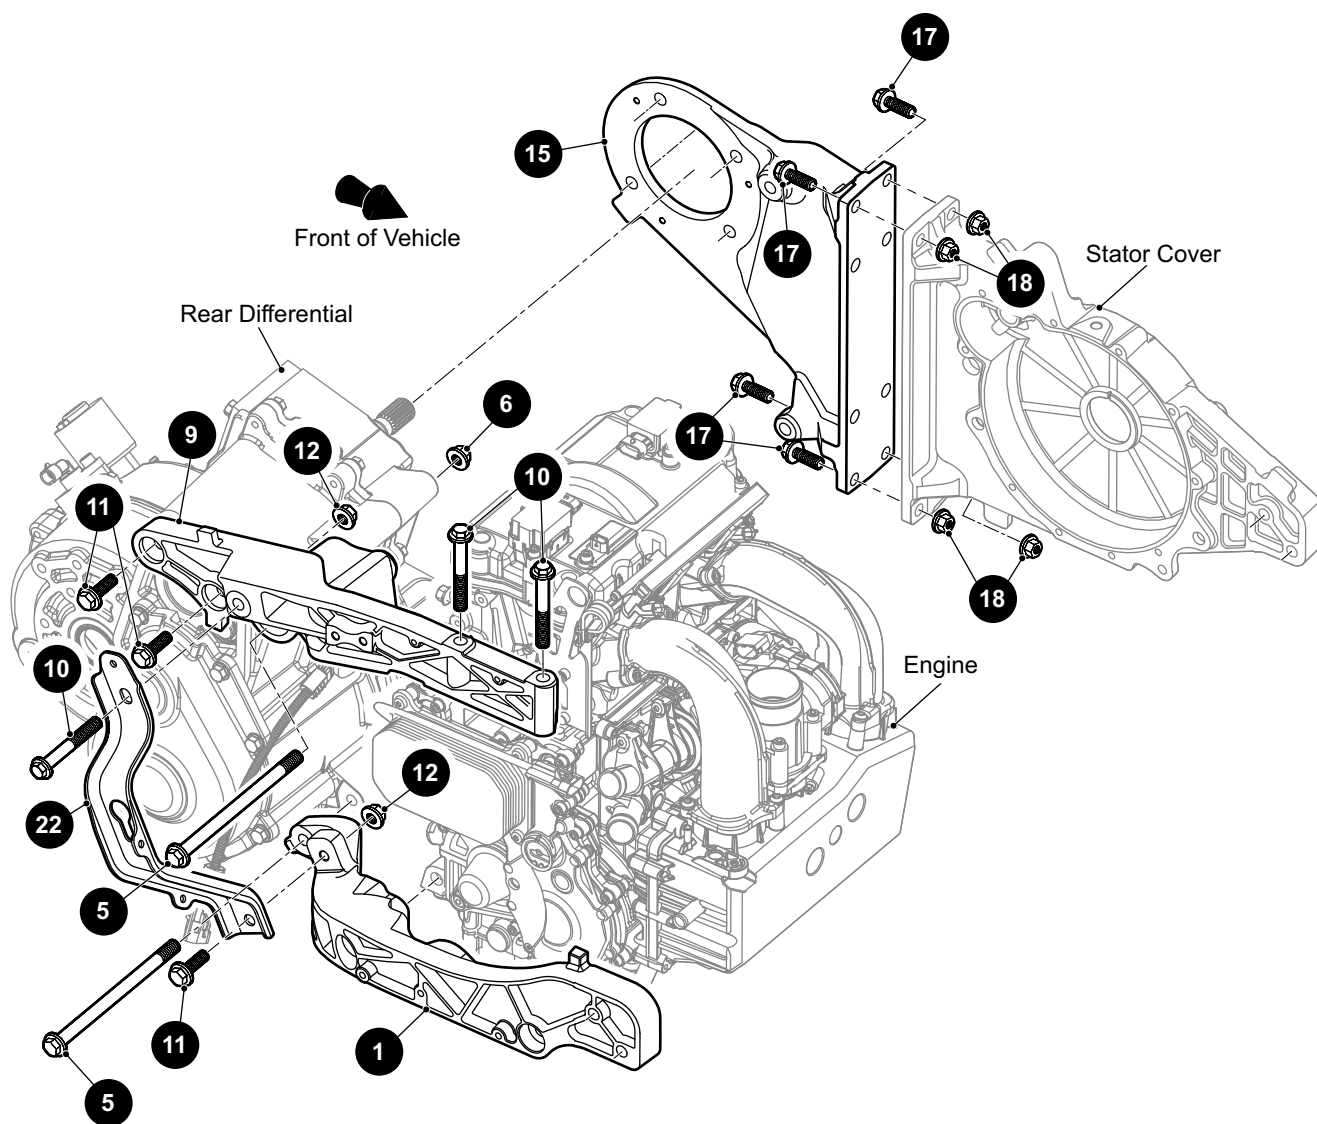
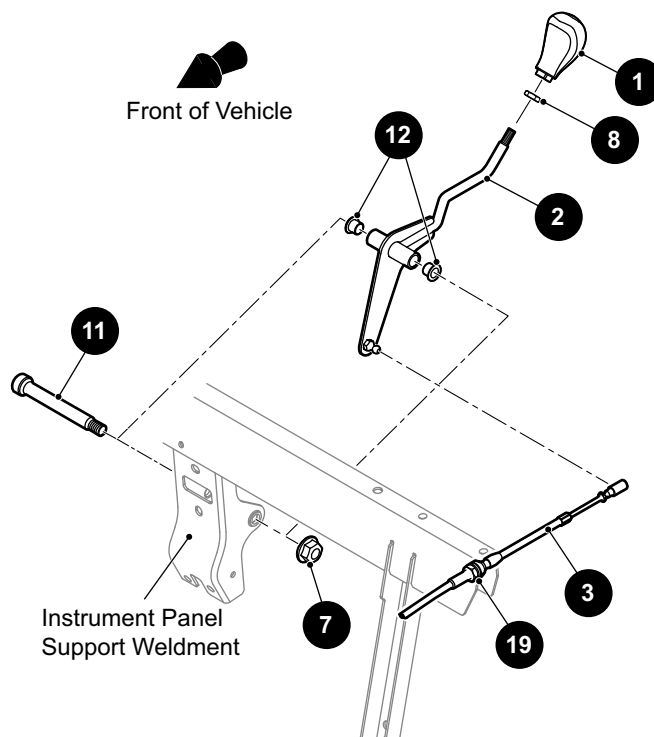
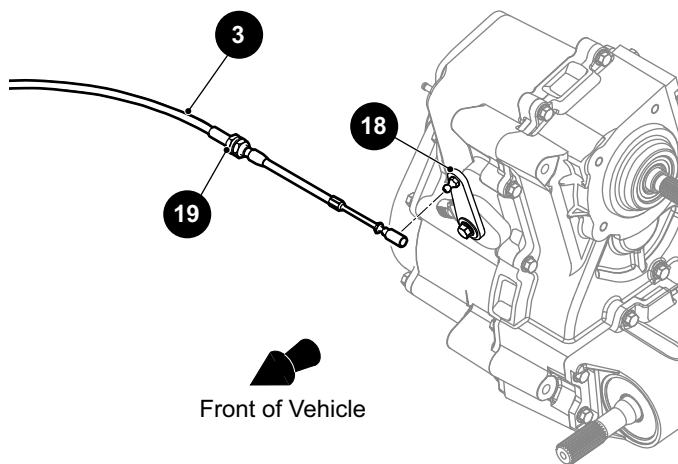

Fig. 16 Rear Differential Mounting Brackets
Fig. 25 Shift Lever
Fig. 26 Shift Cable
4. Remove the speed sensor (Ref. Fig. 16).
18. Remove the four bolts (17) and nuts (18) that secure the driver side differential bracket (15) to the engine stator cover (See Fig. 16)(See Fig. 22)(Ref. Fig. 25).
19. Remove the bolt (25), washer and nut that secure the differential to the rear engine mount (See Fig. 16)(Ref. Fig. 26).